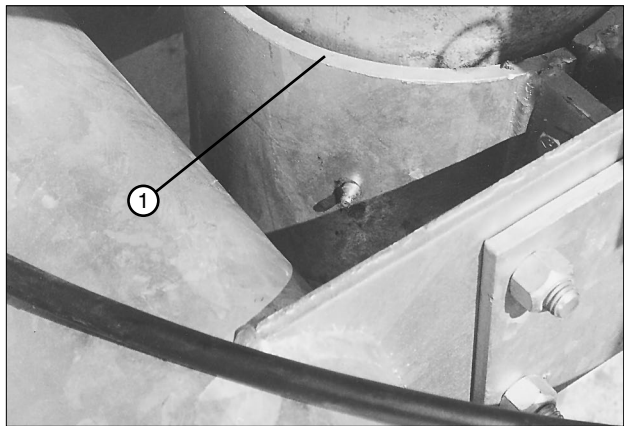

Figure 36-3 1. Lower Bearing
3. Lubricate two (2) grease fittings on the lower bearing. See figure 36-3.